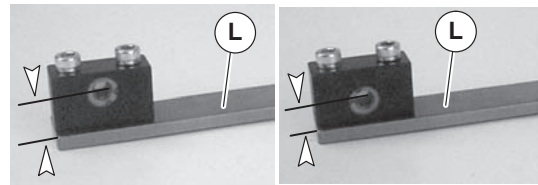

Figure 12
- Check bearing support assembly (Figure 12, item L) setup: 2100 (left) and 4100 or 6200 (right).